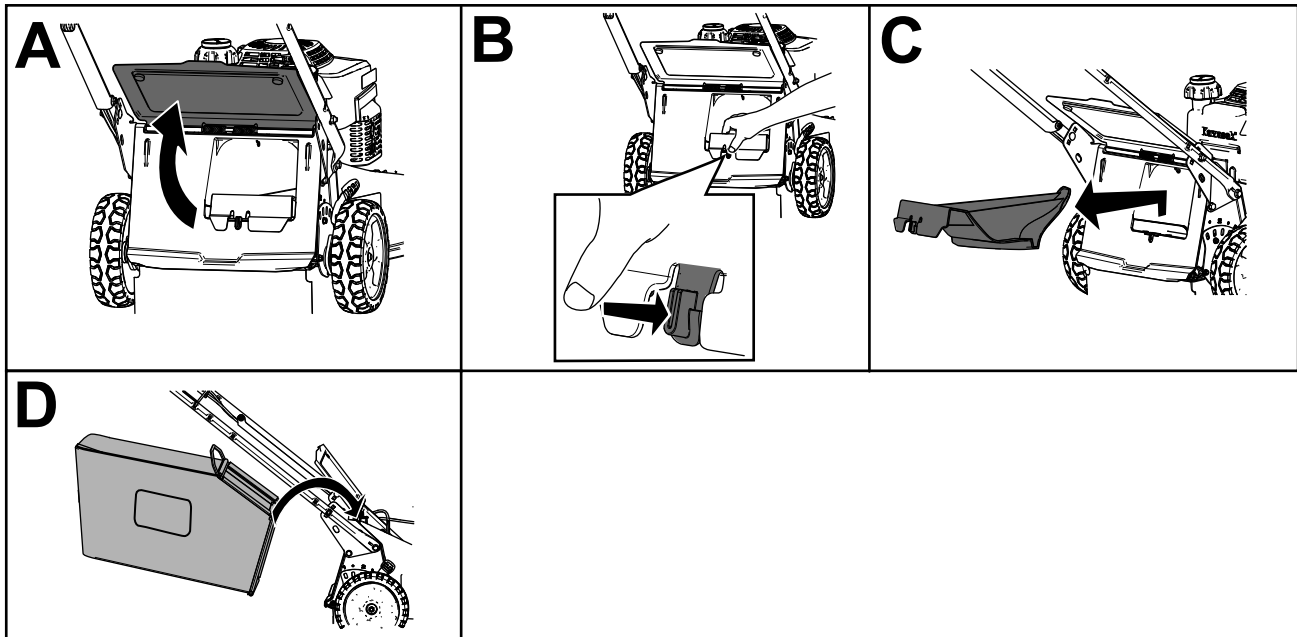

Figure 17
2. Raise and hold up the rear deflector (A of Figure 17).
3. Remove the rear-discharge plug by pushing in the latch with your thumb and pulling the plug out from the machine (B and C of Figure 17).
4. Install the bag-rod ends into the notches at the base of the handle, and rock the bag back and forth to ensure that the bag-rod ends are seated at the bottom of both notches (D of Figure 17).